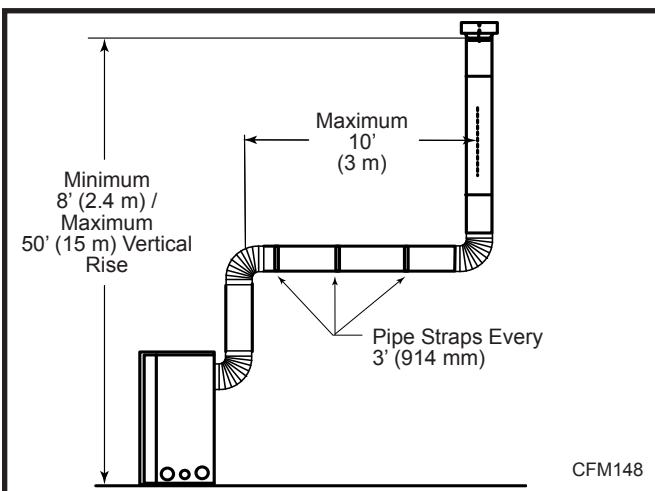

Fig. 36 Support straps for horizontal runs.
5. 7DVCS must be used to support offsets. (Fig. 36)